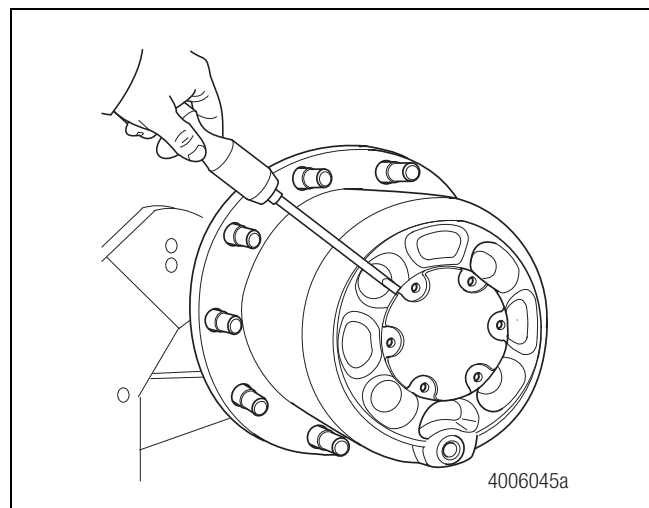

Figure 3.2
8. Use a screwdriver or pry bar to pry up and remove the hub cover. Figure 3.2.